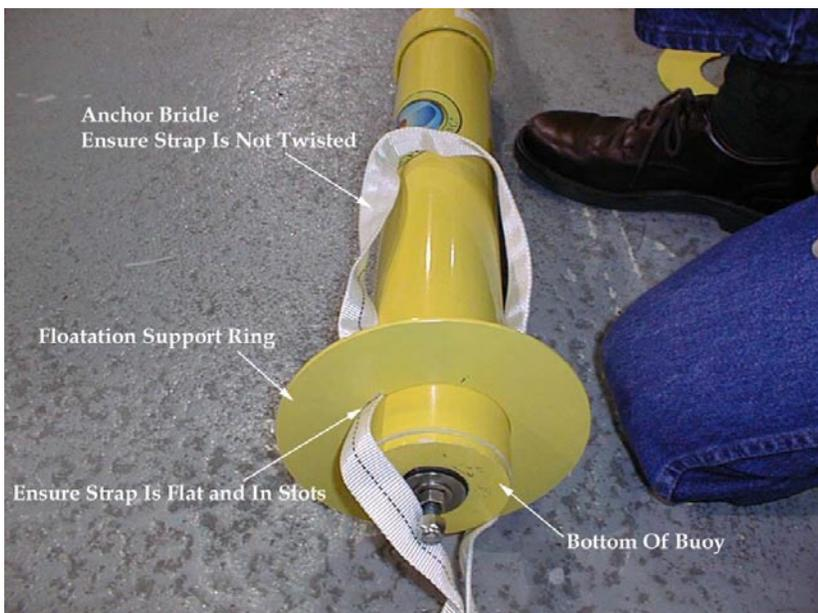

Figure 5
- D. Slide bridle straps and floatation support ring onto the bottom of the buoy. Ensure the straps are not twisted and the straps are positioned in the slots cut into the floatation support ring. (Fig. 5)